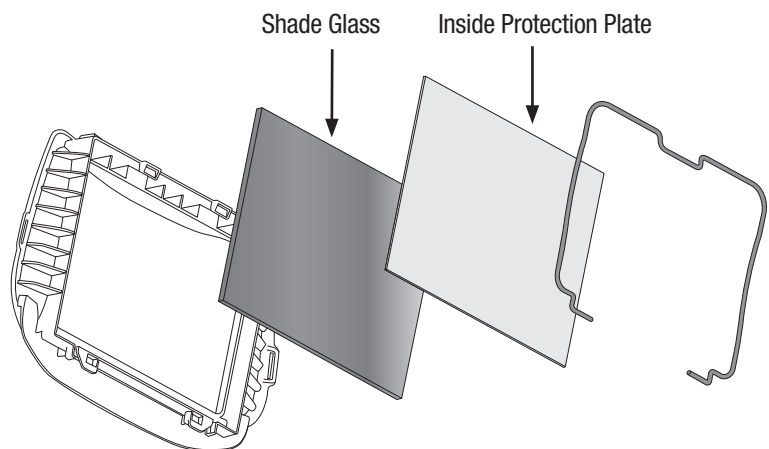

Fig. 22b
- c. Shaded glass may be changed by removing the retainer, inside protection plate and colored shade glass and replacing with a darker or lighter shade as desired by the welder (Fig. 22b).